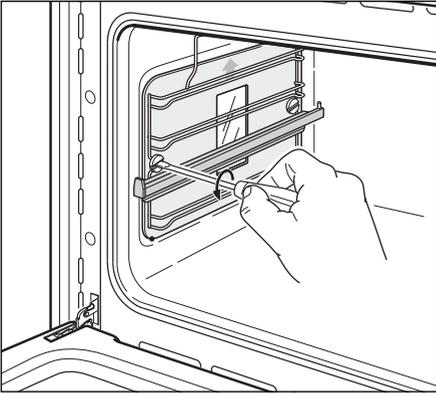

Fig.16 Removing the side racks and catalytic panels (some models only)
The catalytic panels are covered with a special microporous enamel which absorbs and does away with oil and fat splashes during normal cooking over 200 °C. If, after cooking very fatty foods, the panels remain dirty, heat the oven on maximum for an hour to an hour and a half, and they will self-clean. The side panels are reversible. Make sure that you replace them with the arrow up, and on the correct side. To remove the side catalytic panels you first need to unscrew the side racks. See Fig. 16.
- 1 Remove the side racks by unscrewing the fixing screws (Fig. 16)